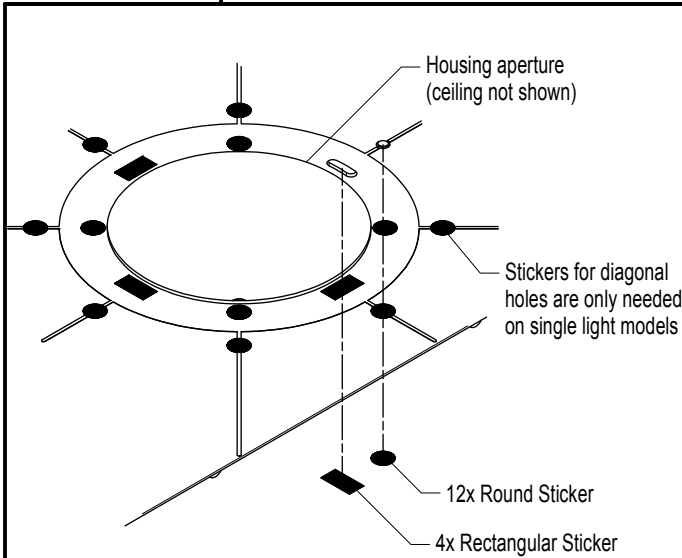

FIG 3.1 Install Housing Stickers
STEP 3 To reduce possibility of light leak, apply round & rectangular Stickers over unused holes & slots around each housing aperture as shown (prior to installing ceiling) - FIG 3.1.